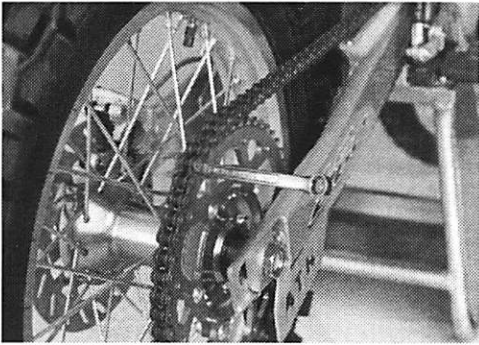

Figure 4.7
3. Place an end wrench between the top of the rear sprocket and the chain, rotate the rear wheel backward until the chain becomes taught. This pulls the rear wheel axle block tight against the adjuster screws. (Figure 4.7)